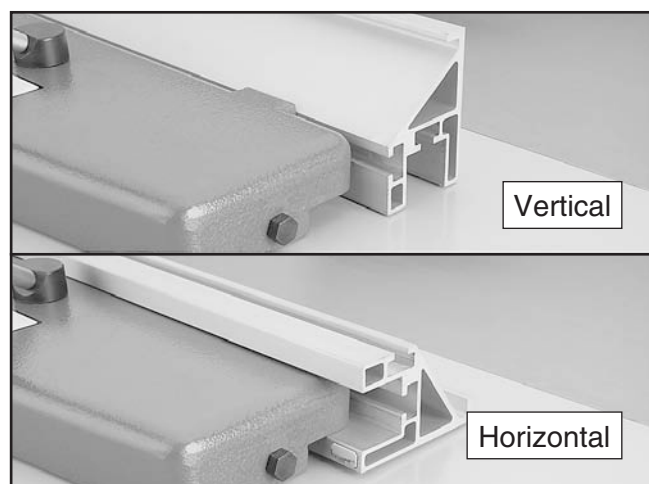

Figure 77. Rip fence positions.
3. Place the fence in the vertical position for larger workpieces, or in the horizontal position for angled cuts and for small workpieces (see **Figure 77**).